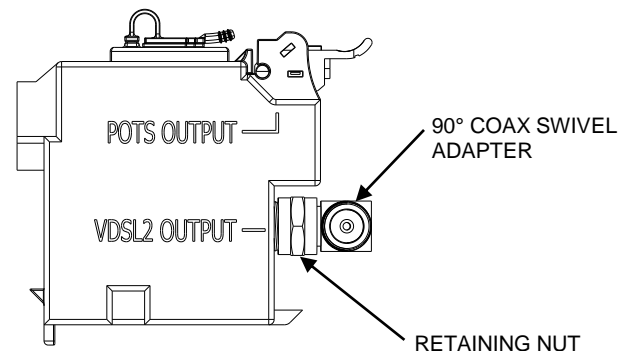

Figure 4
3. The 97FB-S best occupies the lowest slot in the customer side of the NID. When placed this way, the F-connector for the coaxial cable is closest to the customer side bottom wire entry grommet. Turn swivel coax connector end towards the cable entry grommet for proper installation (See Swivel F-Connector Instructions Figure 4). With clear access to the wire entry grommet, other CBM modules do not obstruct wire access to the F connector. Placing the 97FB-S in the lowest position also prevents the F-connector from protruding into space which can be occupied by other CBMs.
1. When it is necessary to reverse the direction of the coax connector, the retaining nut on the 90° coax swivel adapter must be loosened. Then rotate the coax connector 180° and retighten the retaining nut (See Figure 4). **Do not** over tighten the retaining nut.